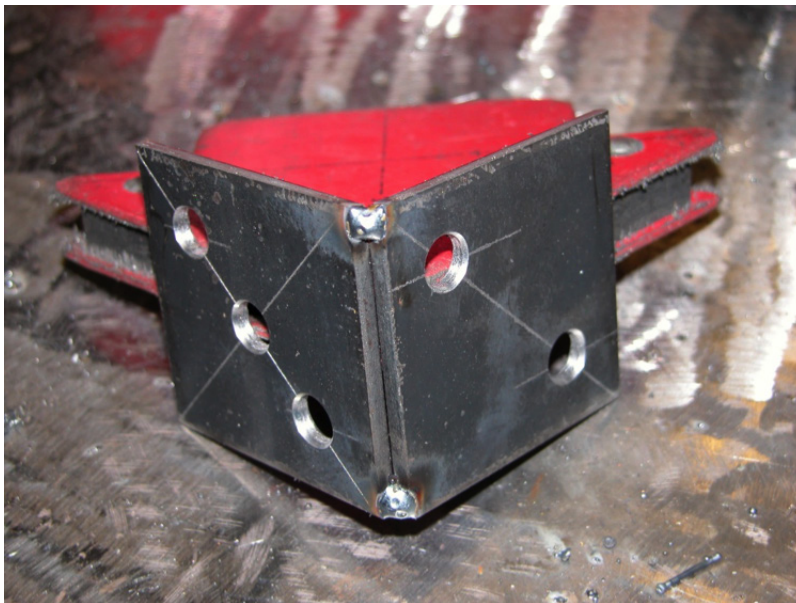

Figure 16
4. Repeat the previous two steps with pieces #2 and #3 (Figure 16).